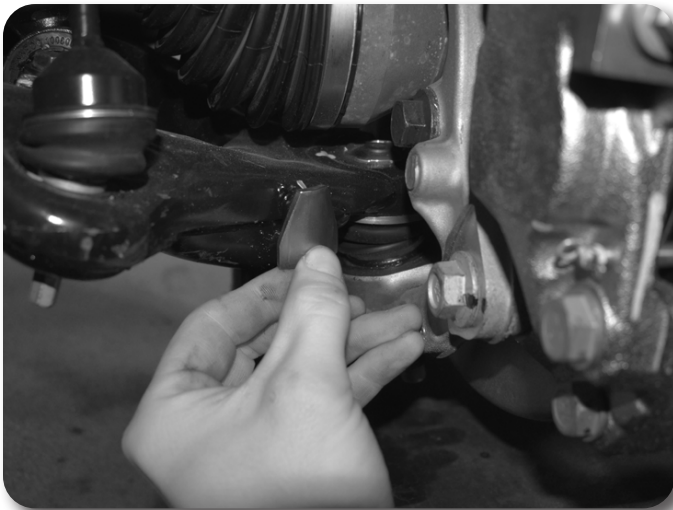

Figure 17
29. Weld steering stop on to lower control arm as shown. Figure 17